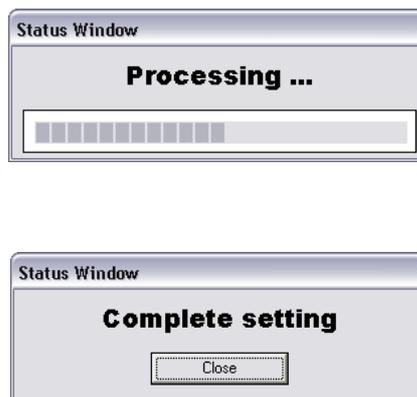

Figure 12
- The windows shown in Figure 12 below will be displayed as the changes are saved.